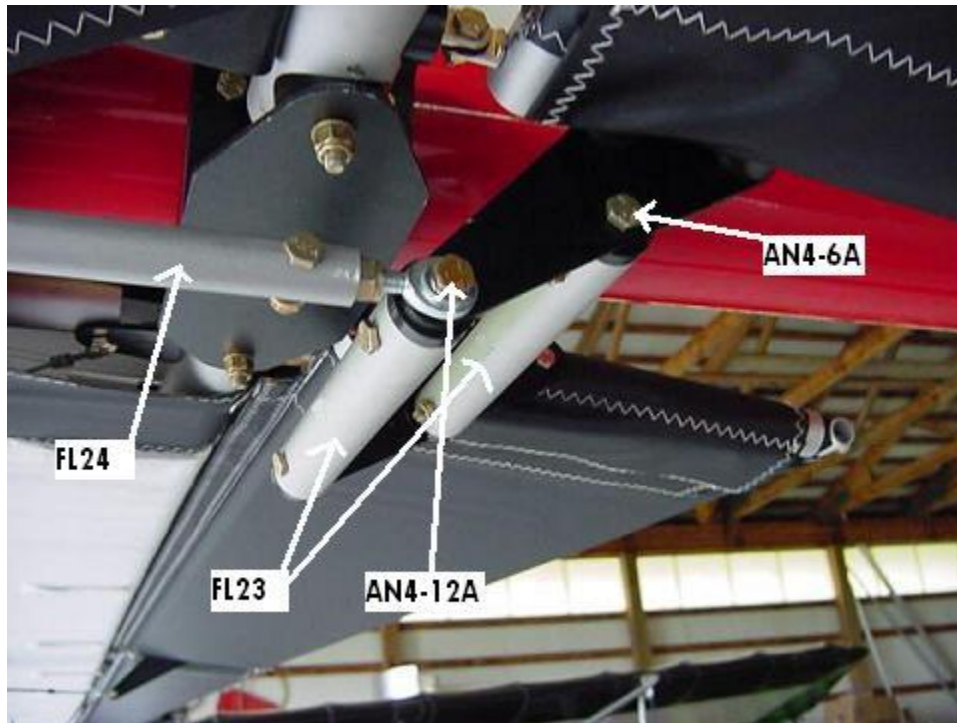

Figure 5 – Flap Connection
The Flaps are controlled by a push pull rod connected to a handle above your head in the cockpit. Connect the flaps using (2) FL23 connecting tubes. Connect FL23 to the Flap Belcranks using (3) AN4-6A and (1) AN4-12A. The push pull rod should also be connected to the Flap Belcrank using the AN4-12A as shown in Figure 5. All bolts should be installed using a thread locker such as LOCTITE.